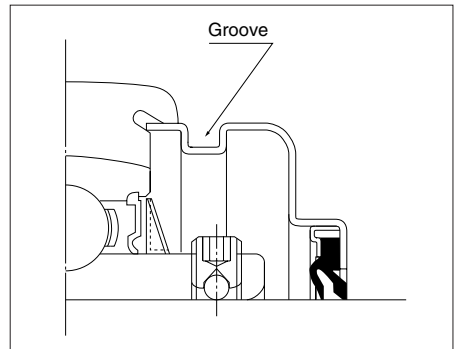
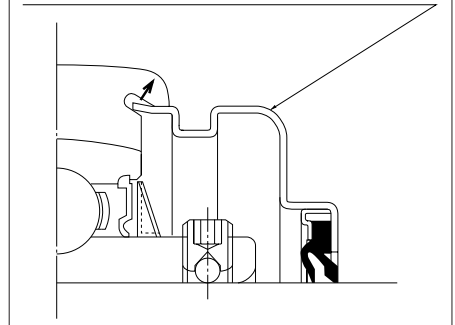

Fig.8.16
Fig.8.17
- 1) NTN steel plate covered unit has a cover fitting groove as illustrated below (**Fig.8.16**). Fit the cover in the cover fitting groove and tap it with a synthetic resin or wooden hammer from a 45° direction. Then, the cover is securely fitted by reaction force (**Fig.8.17**)(note that #204 is a press-fitted type).